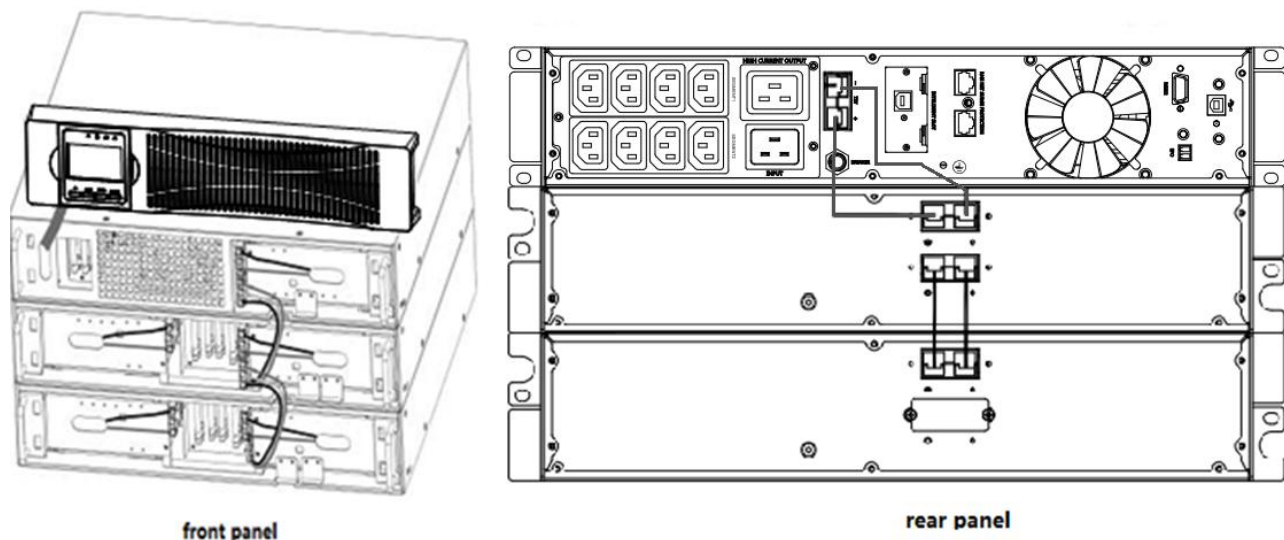

Figure 10 Typical EBP Installation
c) For the bottom (or only) EBP, remove the EBP cable knockout on the top of the EBP front cover. See Figure 10 for the location of the top EBP cable knockout.
d) If you are installing more than one EBP, for each additional EBP remove the EBP cable knockout on the top and bottom of the EBP front cover. See Figure 10 for the location of the EBP cable knockouts.
- e) Plug the EBP cable(s) into the battery connector(s) as shown in Figure 10. Up to four EBPS may be connected to the UPS. Connect black to black,. Press the connector tightly together to ensure a proper connection.